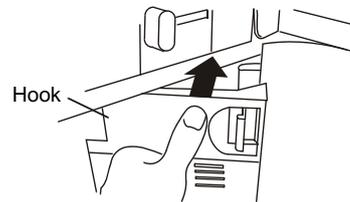

Figure 2
(3).Push the upper part in as indicated in Figure 2.